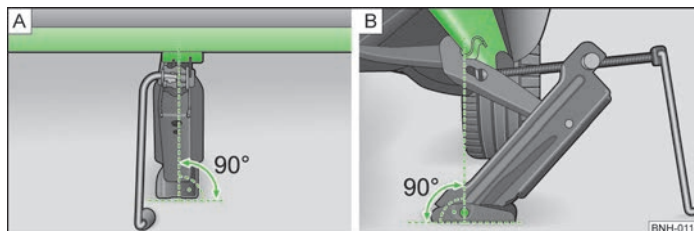

Fig. 114 Attach lifting jack
- Align the lifting jack so that its claw grasps the web » Fig. 114 - below the embossing in the side surface of the lower sill.
- Ensure that the entire surface of the lifting jack base plate rests on level ground and is located in a vertical position to the area » Fig. 114 where the claw grasps the web.